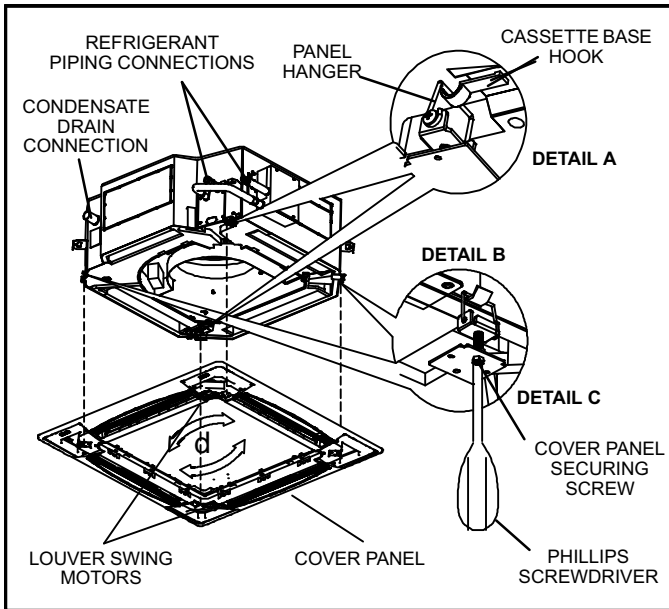

**Figure 14. Remove Return Air Grille**
- 2 - Press the two grille latch release buttons at the same time to release the grille. See figure 14. Tilt the return air grille outward at a 45° angle and lift the grille away from the panel. Carefully place the return air grille off to the side.